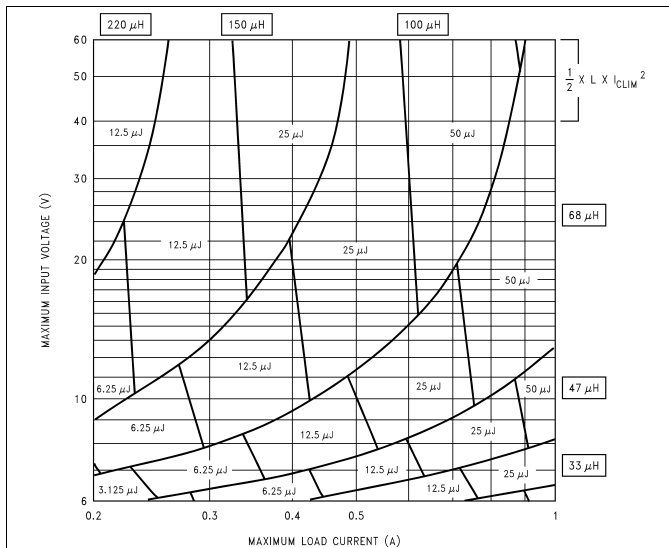
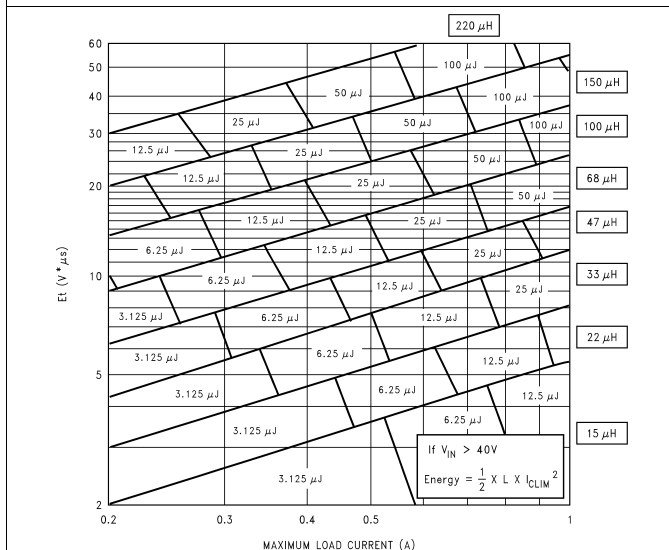

Figure 33. LM2590HV-3.3-AQ
Figure 35. LM2590HV-ADJ-AQ
For a quick-start the designer may refer to the nomographs provided in Figure 33 to Figure 35. To widen the choice of the Designer to a more general selection of available inductors, the nomographs provide the required inductance and also the energy in the core expressed in microjoules ( $\mu\text{J}$ ), as an alternative to just prescribing custom parts. The following points need to be highlighted:
- Figure 35 shows the inductor selection curves for the adjustable version. The y-axis is  $Et$ , in  $V\mu s$ . It is the applied volts across the inductor during the ON time of the switch ( $V_{IN} - V_{SAT} - V_{OUT}$ ) multiplied by the time for which the switch is on in  $\mu s$ . See Example 3.
- Because input voltage is less than 40 V, a first pass inductor selection is based upon Inductance and rated maximum load current. Choose an inductor with the Inductance value indicated by the nomograph Figure 35 and a current rating equal to the maximum load. But first calculate  $Et$  for the given application. The Duty cycle is
Therefore, looking at Figure 33 we quick-select a 100- $\mu\text{H}$ , 1-A inductor (designed for 150-kHz operation) for this application.
- Confirm that it is rated to handle 100  $\mu\text{J}$  (see Figure 35) by the procedure shown in AN-1197 Selecting Inductors for Buck Converters and that the losses are acceptable. (If the DC Input voltage had been greater than 40 V, consider  $e_{\text{CLIM}}$  as in Example 2).